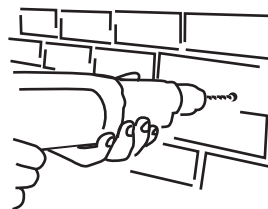

Figure 3.
- Drill (2) 3/16" holes. (Figure 3)
- Anchors slightly smaller than the holes drilled should be used to hold clips (3/16" recommended). (Figure 3)